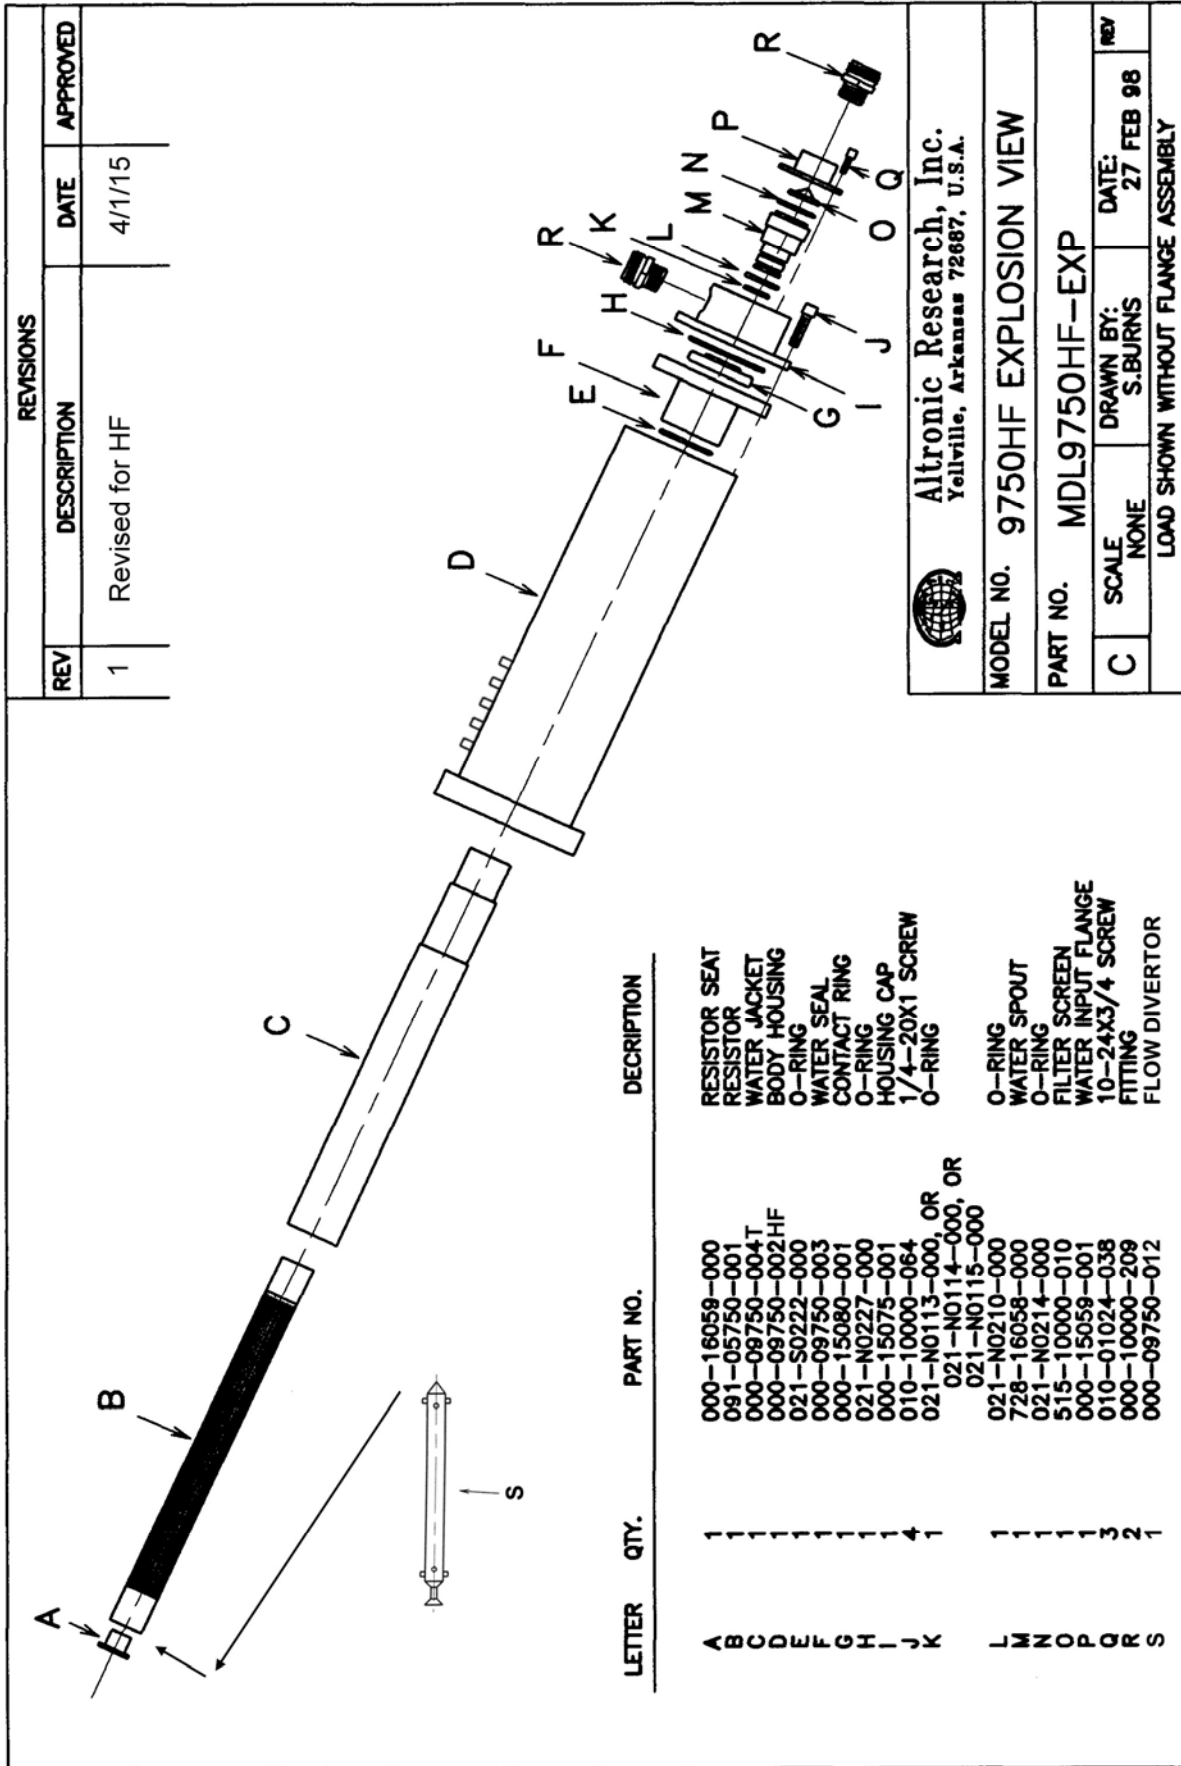
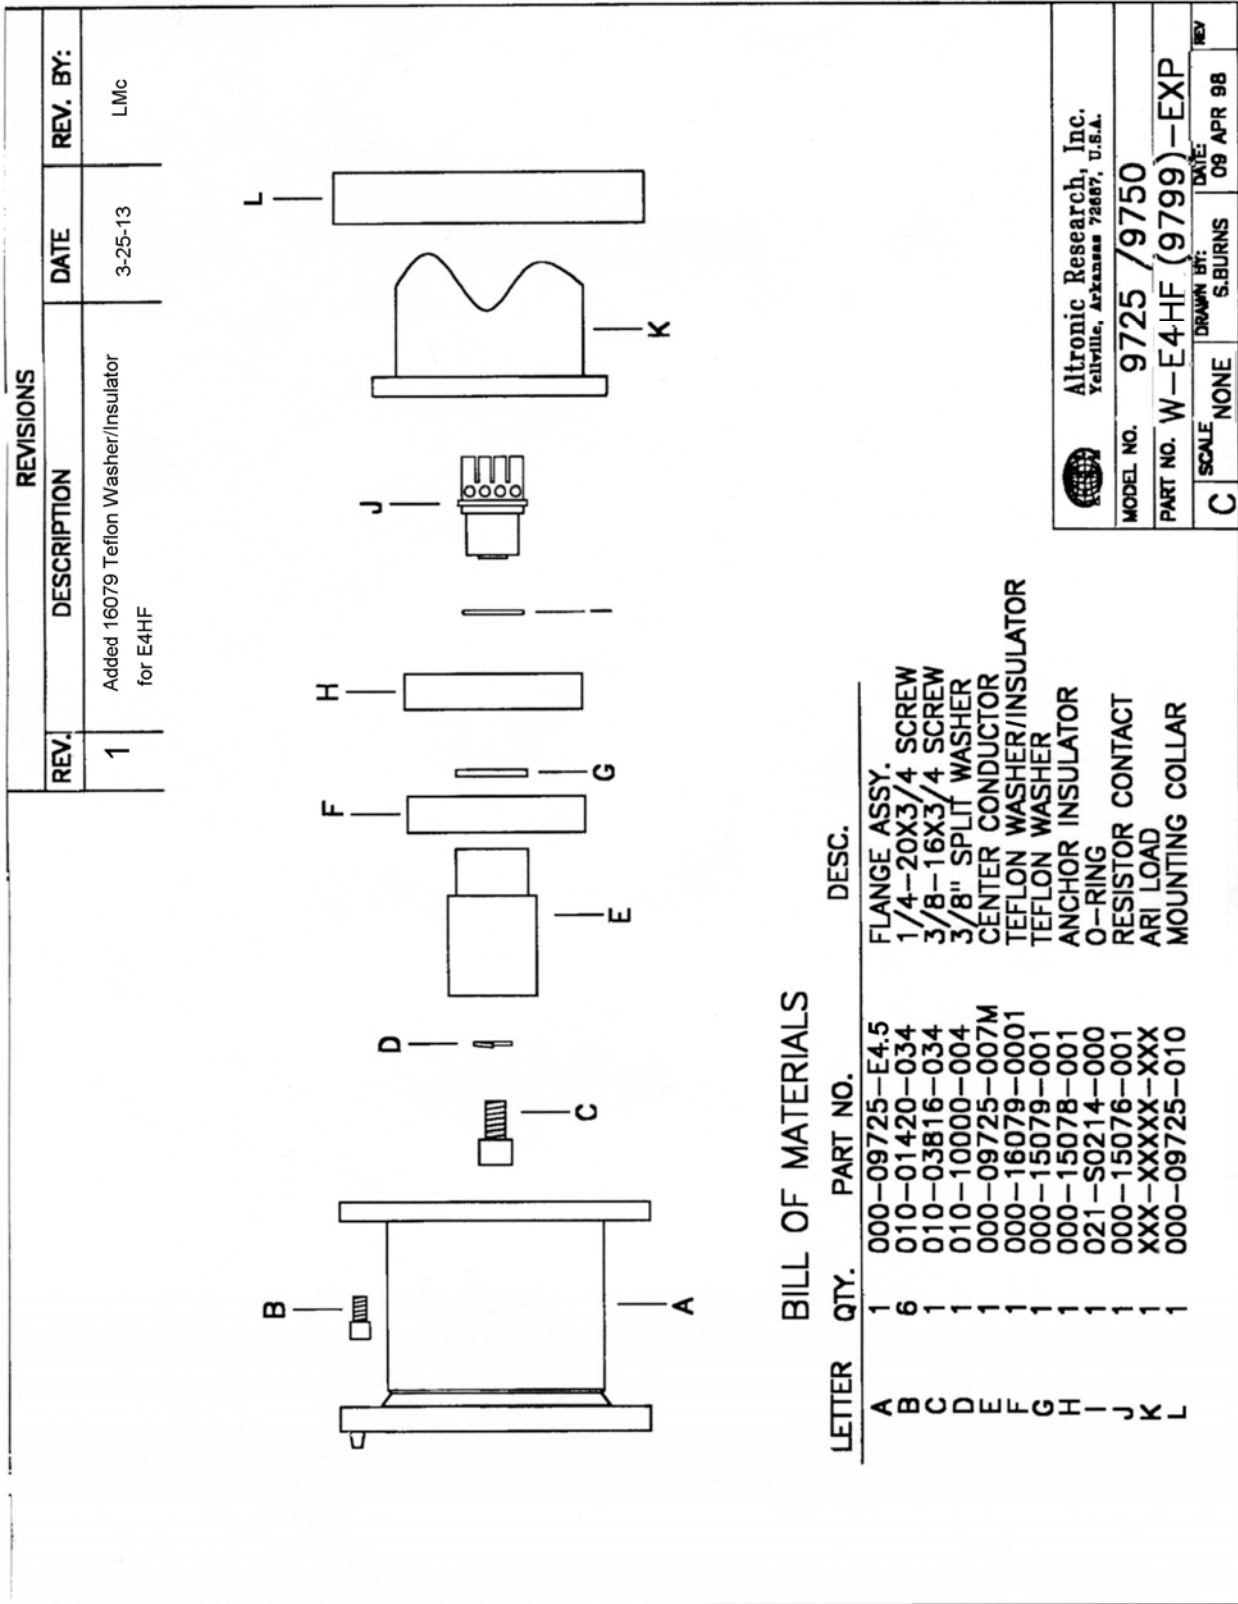

Fig. 14
Fig. 15
4. **Resistor Replacement** - (Refer to Fig. 14) To replace the resistor element, remove the three 10-24x3/8" cap screws (item Q). Remove water input assembly (items O, P, and R). Inspect filter screen for damage, replace if eroded or torn. Remove four 1/4-20x1" cap screws (item J). Remove housing cap assembly (items G, H, I, R, K, M and N). Inspect all O-rings for distortion or damage. Replace if pinched, cut, burned or no longer round in cross section. Inspect ring contact (item G) for signs of arcing or loss of silver in the area of contact with the resistor contact band. Replace if damage is noted. If
5. **Removal of RF Input** - To remove the RF input line adapter flange, remove six 1/4-20 x 5/8" socket head screws (item B, Fig. 15) that secures the line adapter flange and mounting ring (items A & L, Fig. 15) to the load body housing (item D, Fig. 14). The RF input assembly consisting of the center conductor, anchor insulator and front resistor contact (Fig. 15, items C, D, E, F, G, H, I & J) will normally remain in the load body. Grasp the center conductor by hand and attempt to pull the input assembly out of the load body using slight side to side motion while pulling. If strong resistance is encountered, it may be necessary to chill the load to allow the anchor insulator to shrink away from the load housing. This can be done by placing the load in a freezer, or packing the load in ice for 20 to 30 minutes. Once the anchor insulator has shrunk away from the load housing, the RF input assembly should be easily removed. At this point of disassembly, all components of the load can be inspected or replaced as needed. Reassembly should be done in the reverse order of sequence.